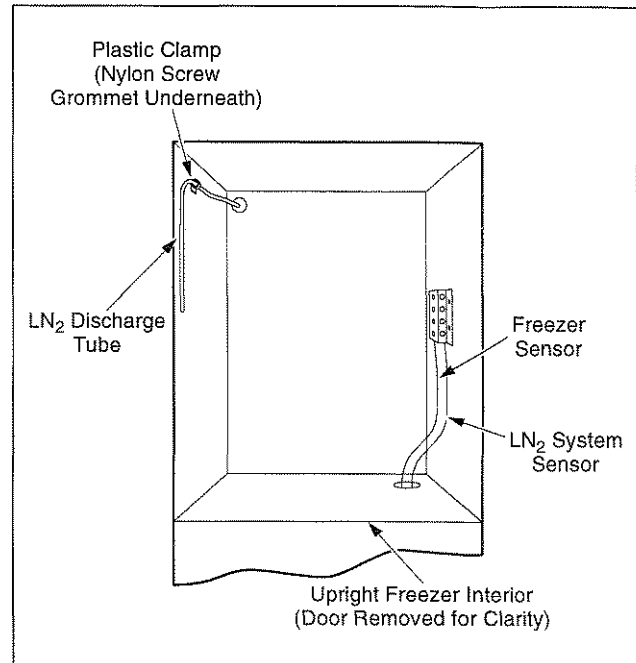

Figure 14. LN₂ System Component Placement
4. Mount the LN₂ discharge tube with nylon standoffs, PVC tubing clamps, and Phillips self-tapping screws (refer to Figure 14 on page 8).